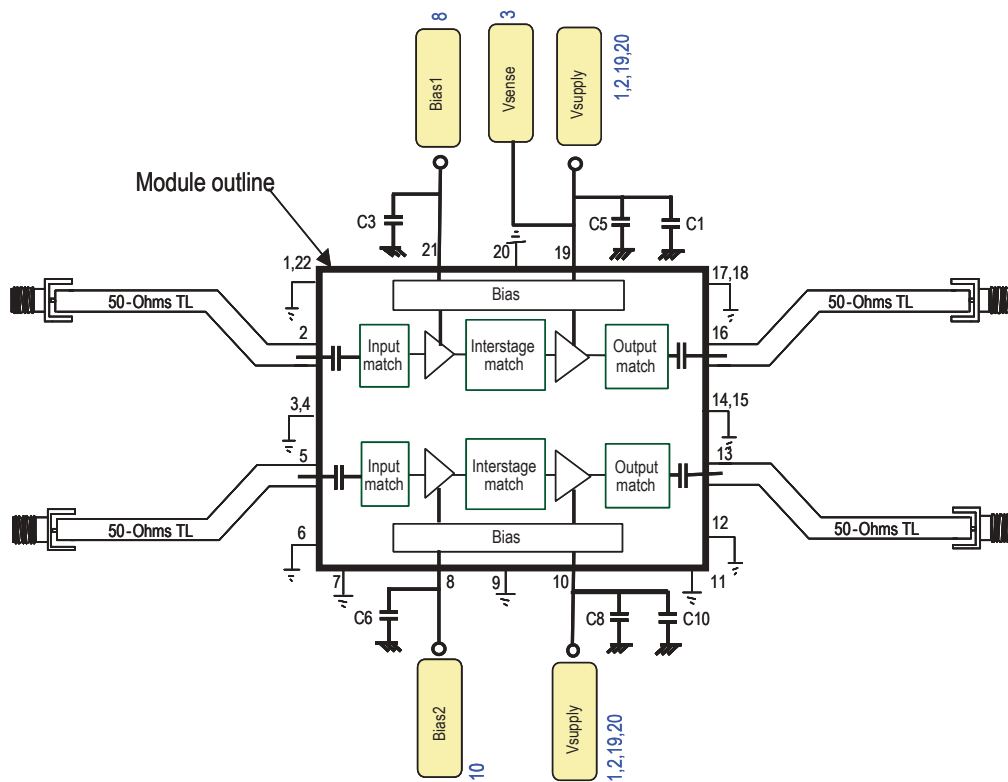

**Figure 5. Demo Board Layout Diagram**
$T_A = 25\text{ }^\circ\text{C}$ ,  $V_{dd} = 5\text{V}$  @  $V_{ctrl} = 2.2\text{V}$ , RF performance at 2.0 GHz, given for each of the 2 RF paths, measured on demo board (see Fig. 5) unless otherwise specified.
- Measurements at 2GHz obtained using demo board described in Fig 5.